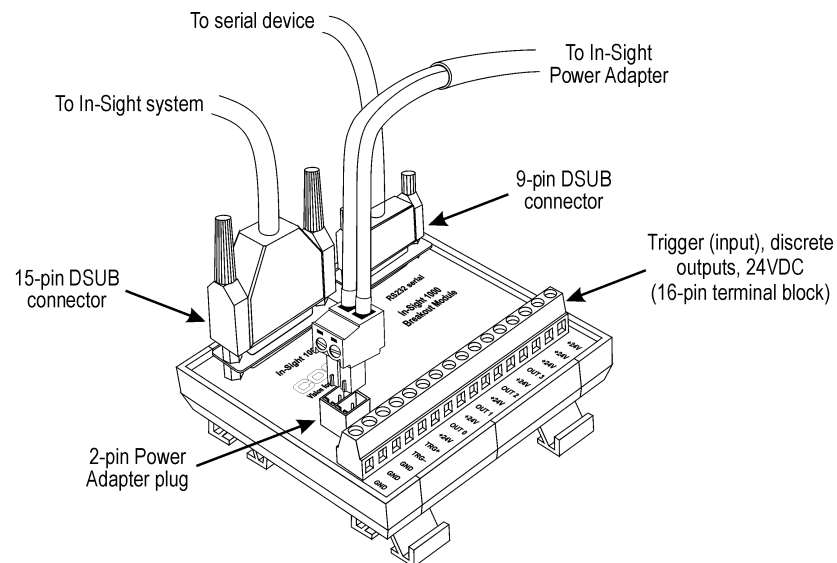

Figure 2-2: Breakout Module Connections
- 6** Plug the wire leads from a 24VDC supply for the +24V power and ground into the 2-pin terminal plug on the Breakout Module. Alternatively, remove the terminal plug and insert the 2-pin terminal plug attached to the In-Sight power adapter into the keyed power adapter port on the Breakout Module (Figure 2-2).